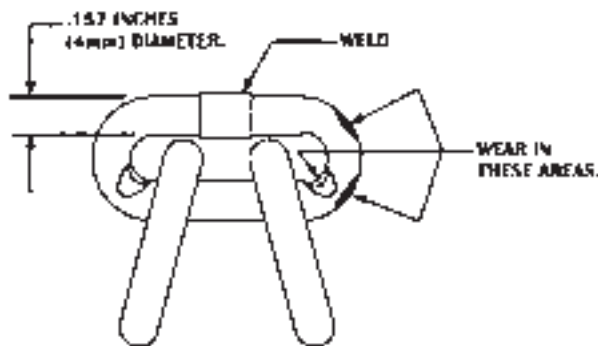

Figure 15. Chain Wear Areas
3. Slack the portion of the chain that normally passes over the lift-wheel (sprocket) or idler sprocket on multi-reeved hoist. Examine the chain links for wear (see figure 15). If the wire diameter anywhere on the link measures less than 90% of the nominal wire diameter, the chain must be replaced.